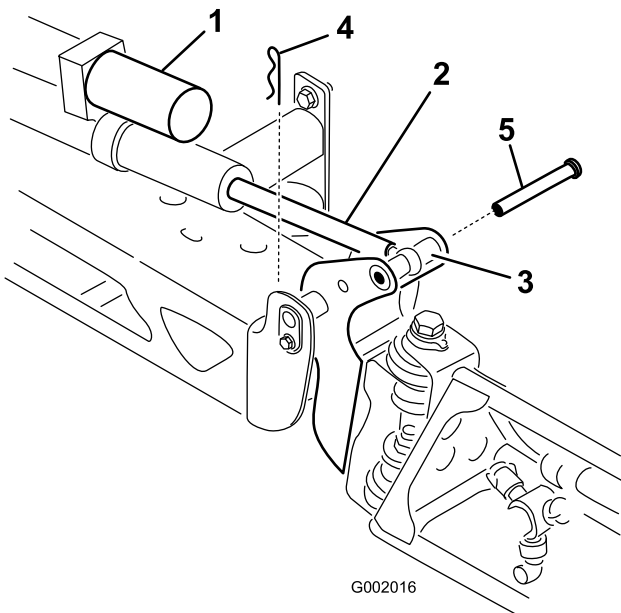

Figure 50
2. Remove the cotter pin from the pivot pin (Figure 50).
- Lift up on the boom and remove the pin (Figure 50). Slowly lower the boom to the hardstop.
- Lift up on the boom to align the pivot with the actuator rod. While holding the boom, insert the pin through both boom pivot and actuator rod (Figure 50).